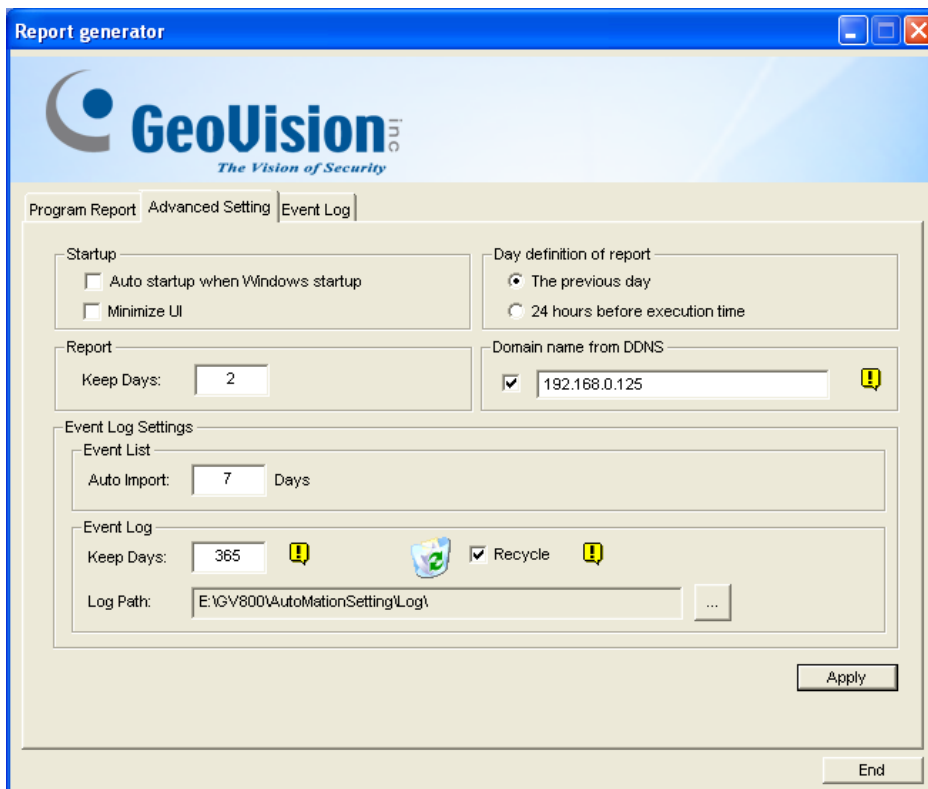

Figure 11-68
- ⊙ If you select **Previous day** on the Advanced Setting tab (Figure 11-68), the report will be generated on the data of one day before your specified date. For example, you enter "12/10/2007" in the **Select Date** drop-down list. The report is generated on the data of 9th December 2007.
- ⊙ If you select **24 hours before execution time** on the Advanced Setting tab (Figure 11-68), the report will be generated on the data of 24 hours before your specified date
- ⊙ If you select **Previous day** on the Advanced Setting tab (Figure 11-68), the generated report will contain the data of 7 days before your specified date. For example, you enter “12/10/2007” in the **Select Date** drop-down list. The report is generated on the date from December 3rd to 9th in 2007.
- ⊙ If you select **24 hours before execution time** on the Advanced Setting tab (Figure 11-68), the generated report will contain the data of 7 days counting back on your specified date and time. Specify the date and time by using the **Select Date** and **Select Time** drop-down lists. For example, if you enter “12/10/2007” and “01:00”, the report is generated on the time from 01:00 am, December 10th to 01:00 am, December 4th, 2007.
3. If the **Domain name from DDNS** field on the Advanced Setting tab (Figure 11-68) is not selected, this dialog box will appear.